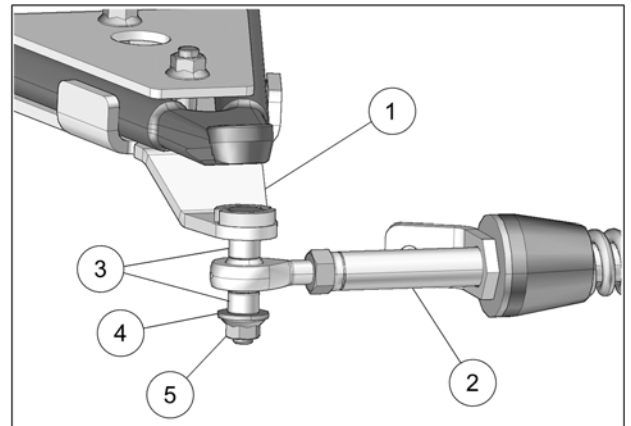

Fig. 21
9. Attach stabilizing rod (2) to anchor bracket (1), using the two spacer bushings (3), flat washer (4), and nut (5). Torque to 70 N•m [52 lb•ft]. See Fig. 21